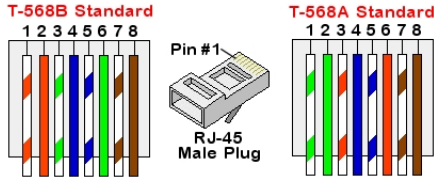

Figure 29: Standard cable wiring
- c. Insert the eight wires into an RJ45 connector, as described in *Figure 29*
8. For the switch/router side, use a pre-terminated cable or use a crimper to prepare an RJ45 communication connector: Insert the eight wires into the RJ45 connector in the same order as above (*Figure 29*).